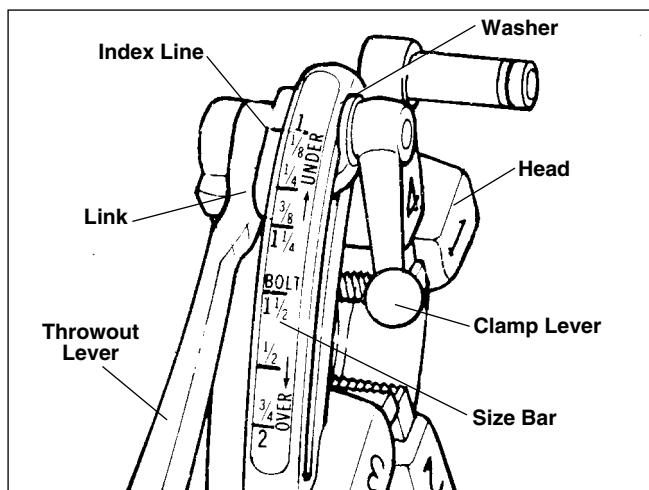

Figure 12 – Universal Quick-Opening Die Head
5. Quick-Opening 811A Die Head (*Figure 12*) – Rotate throwout lever to the CLOSED position.
10. Quick-Opening 811A Die Head (*Figure 12*) – When thread is completed, raise throwout lever to open position, retracting dies.
NOTE! The No. 811A Universal Die Head (*Figure 12*) for right hand threads requires four sets of dies to thread pipe ranging from $\frac{1}{8}$ " through 2". One set of dies is required for each of the following pipe